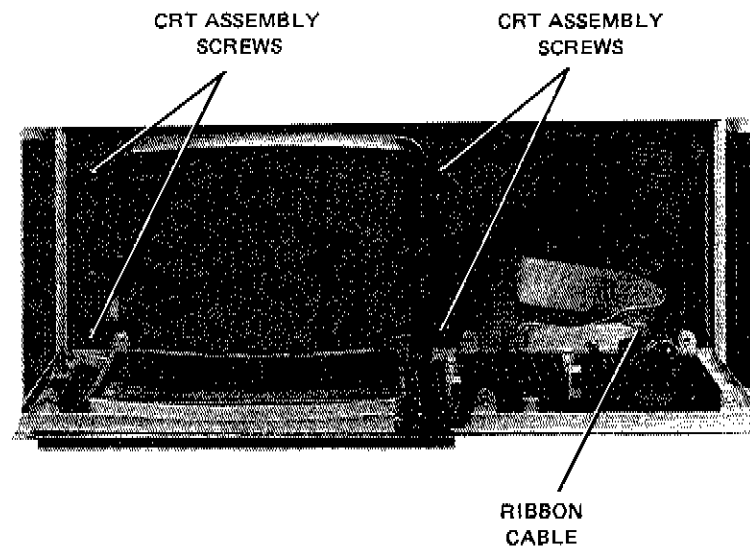

Figure 3. Front Panel/CRT Removal
4. Disconnect the ribbon cable from the front panel. Refer to Figure 3.
6. Referring to Figure 3, remove the four CRT assembly screws.